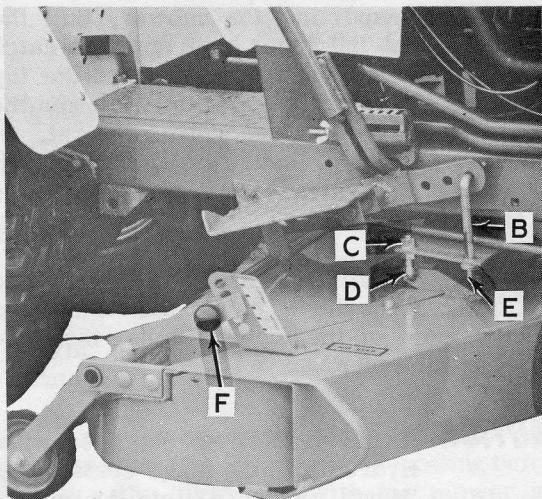

Figure 5. Cutting Height and Fore - Aft Level Adjustments
adjusting washer "E", Figure 5 and the lift frame with the mower in the lowered position. If the wing nut is set too far "out", the lift rods may jam against the mower deck when crossing obstructions. If the wing nut is set too far "in", the mower will not descend to mowing position. The 1/2" washer to lift frame clearance provides adequate float for the mower suspension when the deck is set at the desired operating height.
3. The mower must be level, fore and aft. To check for proper level, tire pressures must be correct and equal. Take measurements between a level surface and the blade tips with the mower set at desired cutting height and gauge wheels in contact with floor. Take measurements as close to the front and rear ends of the mower as possible. To raise the front of the deck, loosen the lower nut "D", Figure 5 on each adjusting link. Turn the upper adjusting nuts "C" downward until proper deck level is obtained. Then tighten the lower nuts to lock. To lower the front of the deck, back off adjusting nuts "C" and lock the lower nuts "D".